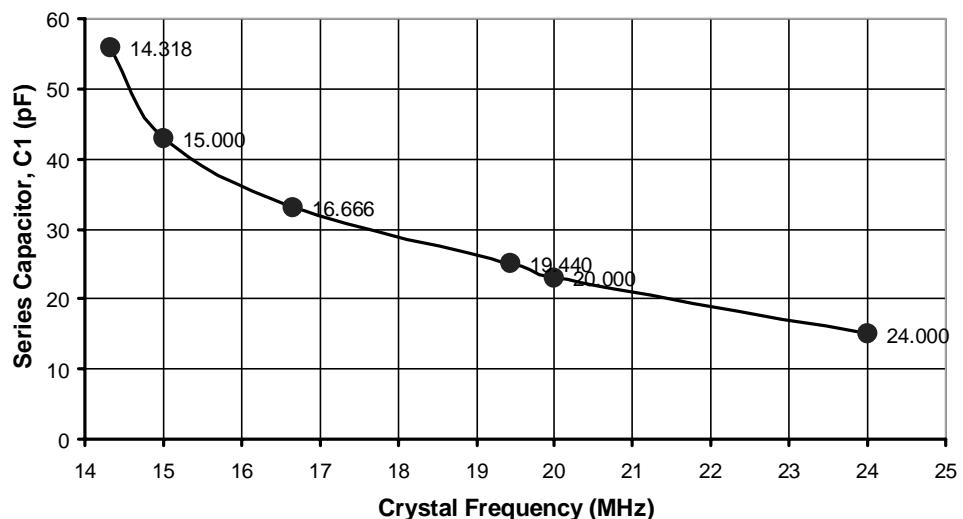

FIGURE 9 - SUGGESTED SERIES CAPACITOR  $C_1$  FOR PARALLEL CRYSTAL
*Figure 9* shows the suggested series capacitor value for a parallel crystal. For a 16.666 MHz crystal, the recommended C1 value is about 33pF.